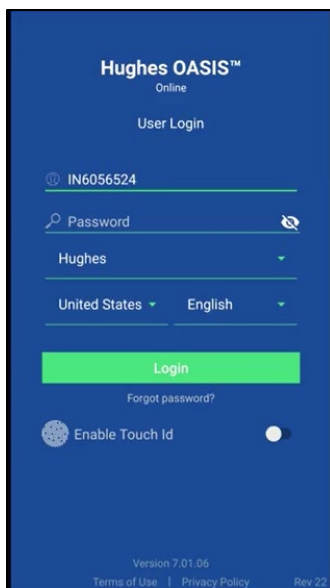

Figure 3: Login password screen
2. The User Login page appears, as shown in Figure 3. Enter your installer ID number for your username and enter your password in their respective fields, then tap **Login**.